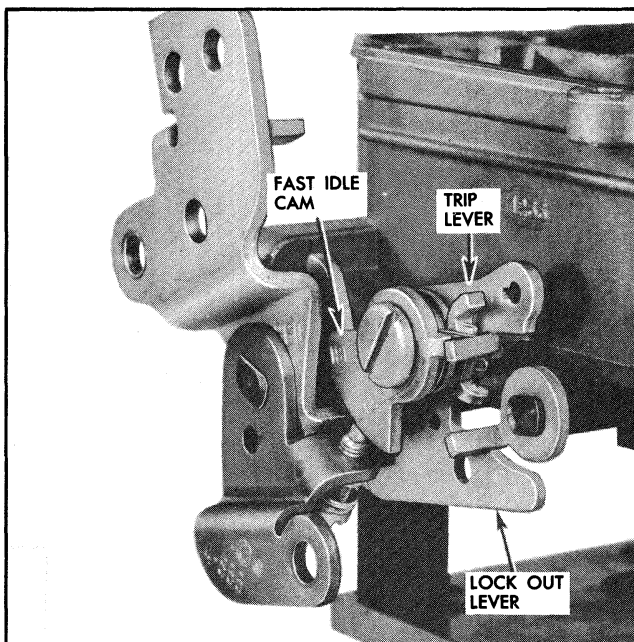

Fig. 6B-82 Location of Fast Idle Cam and Lockout Lever
20. Remove fast idle cam attaching screw, fast idle cam, trip lever and lockout lever (Fig. 6B-82).
21. Remove primary to secondary throttle operating rod (Fig. 6B-83).